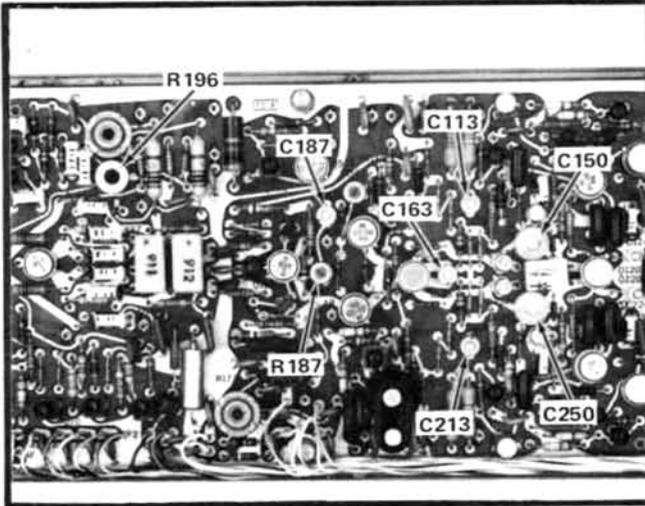

Fig. 5-9. Location of high-frequency adjustments on the Input board.
l. ADJUST—R196, R432, R333, R336, C187, R187, C163, C113, C150, C250 and C213 (see Figs. 5-9 and 5-10) in the given order for optimum response to a square wave. C250 and C213 are mainly - INPUT adjustments. To perform the adjustments, use the information in the procedure that follows.